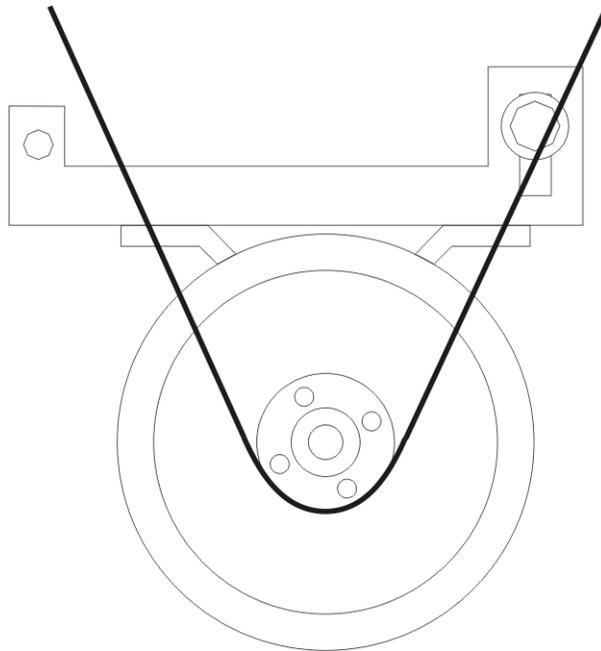

Figure 6.2: Belt Tensioning Bolt
- (b) After disconnecting power to the machine and removing all panels necessary for access to the drive belts, use the following method to verify that the V-belts are properly tensioned. Belt tensioning is straightforward, and accomplished by loosening the tension adjusting bolts and adjusting the belts to the proper tension. Then the bolts should be tightened. See figure 6.2.